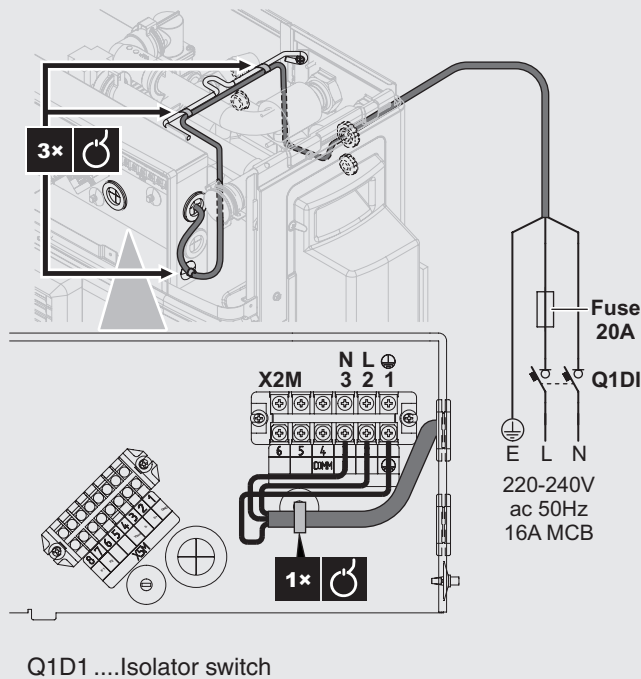

Fig. 5.14
1. Connect the power supply cable (shown in Fig. 5.14) to the heat pump terminal block X2M and secure in position with the 4 cable ties.